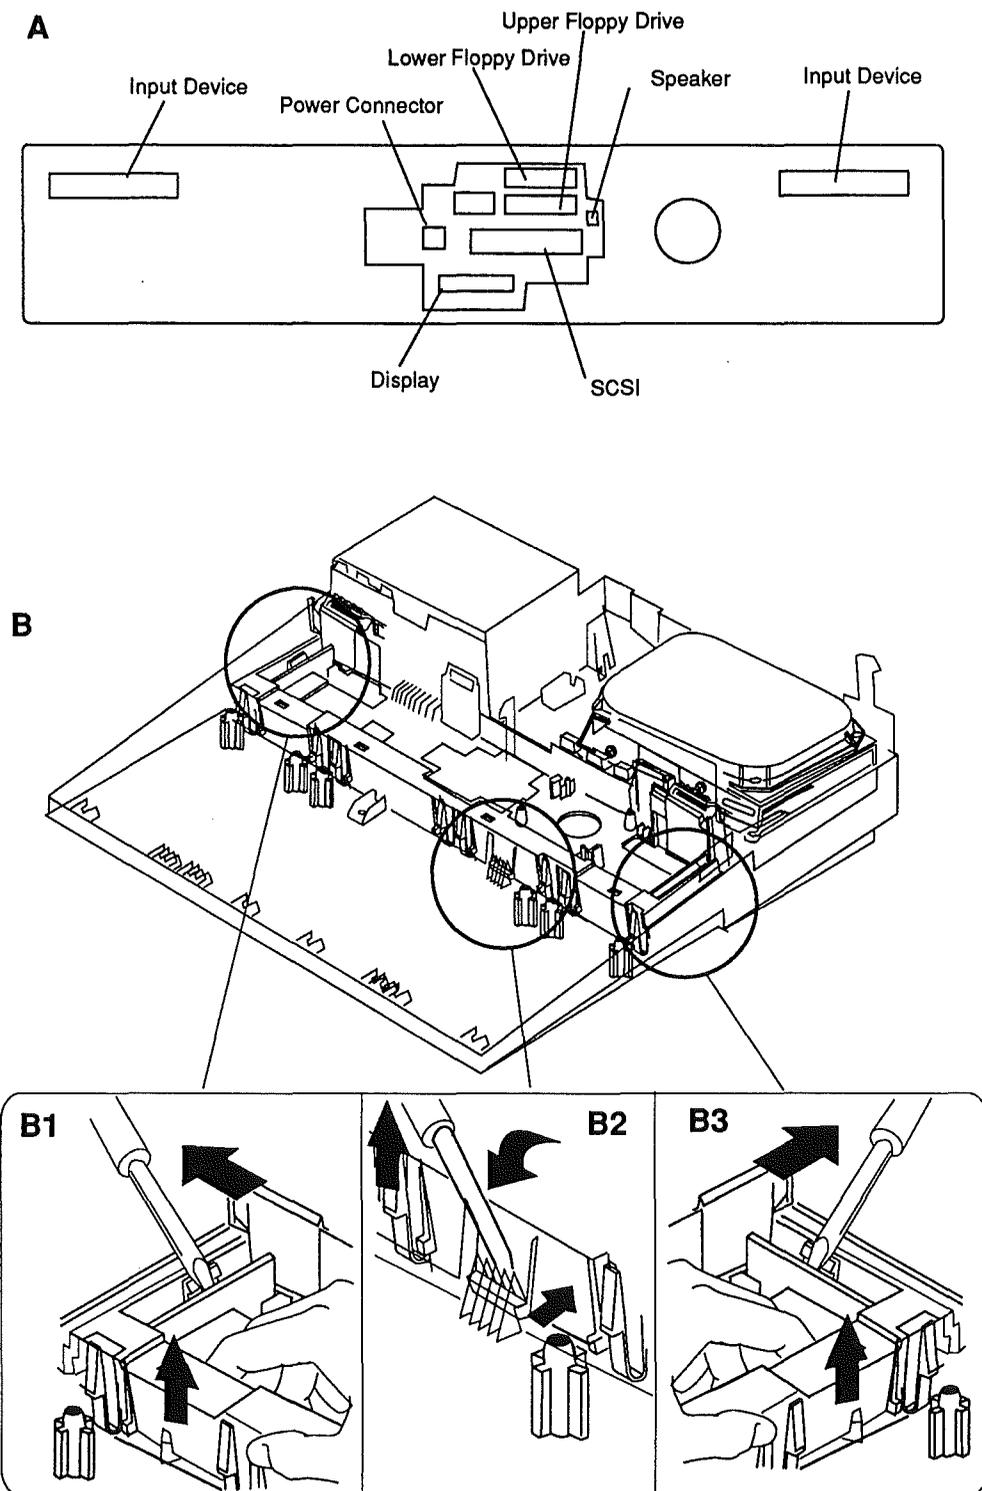

FIGURE 16
3. **Figure 16-A.** Using the illustration as a guide, disconnect the following cables from the logic board:
4. **Figure 16-B1.** Locate the left subframe latch. Using the flat-blade screwdriver, pull the clip away from the subframe. When the clip is released, lift the left side of the subframe.
5. **Figure 16-B2.** While holding the left side of the subframe up—far enough to keep it from being held by the plastic clip—press on the clip at the right front of the subframe. Press the clip in far enough to release it. You can now lift the subframe a little farther.
6. **Figure 16-B3.** Use the flat-blade screwdriver to release the plastic clip at the right side of the subframe.